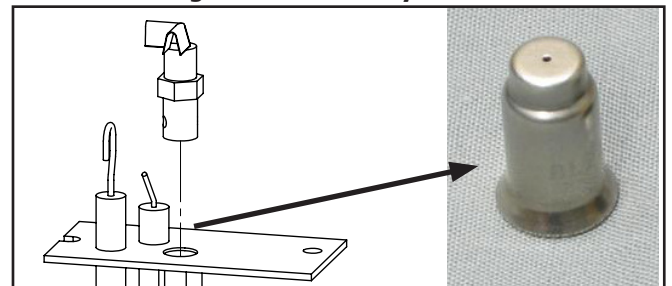

Figure 37: Pilot Orifice (not to scale)
4. Convert the existing pilot orifice with the one provided with the unit (see Figure 37) using a **7/16" wrench**. Fully unscrew and remove the pilot head and replace the orifice insert, bell end down. Re-install and tighten the pilot, if the head does not reach proper orientation in the snug position then contact your Enviro dealer.